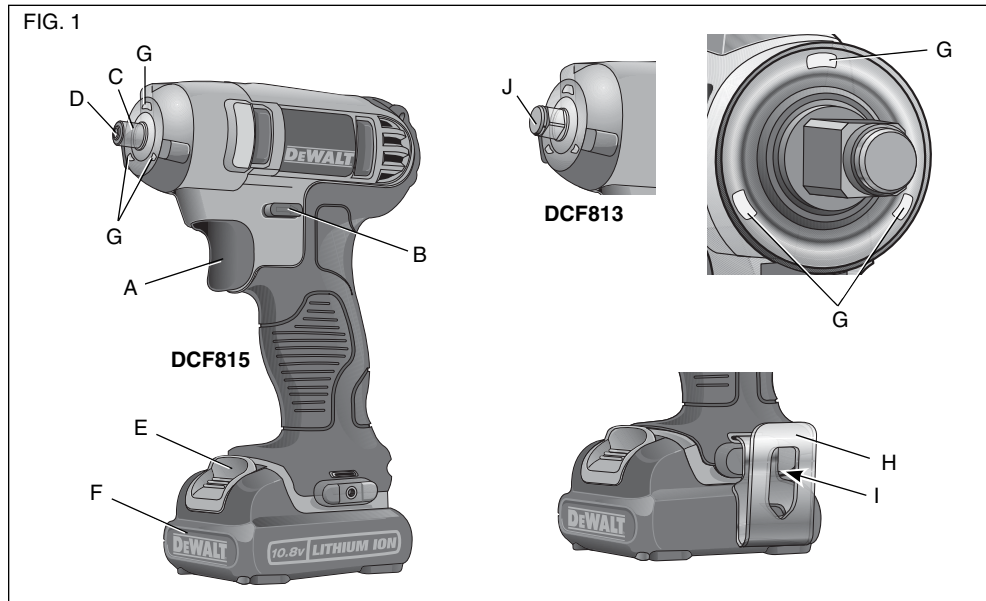

FIG. 2
### Charging Procedure (Fig. 2)
2. Insert the battery pack (F) into the charger, as shown in Figure 2, making sure the pack is fully seated in charger. The red (charging) light will blink continuously indicating that the charging process has started.